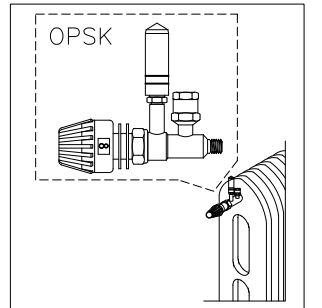

Fig. 9 One-Pipe Steam Valve Model OPSK
ONE-PIPE STEAM SYSTEMS (Fig. 9)
2. Install as shown in Fig. 9. Note: Steam air vent must be mounted in upright position. Vacuum breaker required.